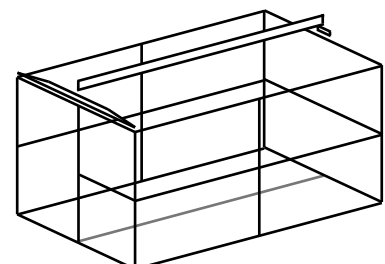

**fig. 1**
**Step 5:** Position a Jack Stud and Door End Jack Stud on each end of Ridge Beam and nail in place using two 75mm nails each end (**fig. 1**). Turnover Ridge Beam / Jack Studs, position centrally on 1.715m Top Plates and nail to Top Plates using 75mm nails.